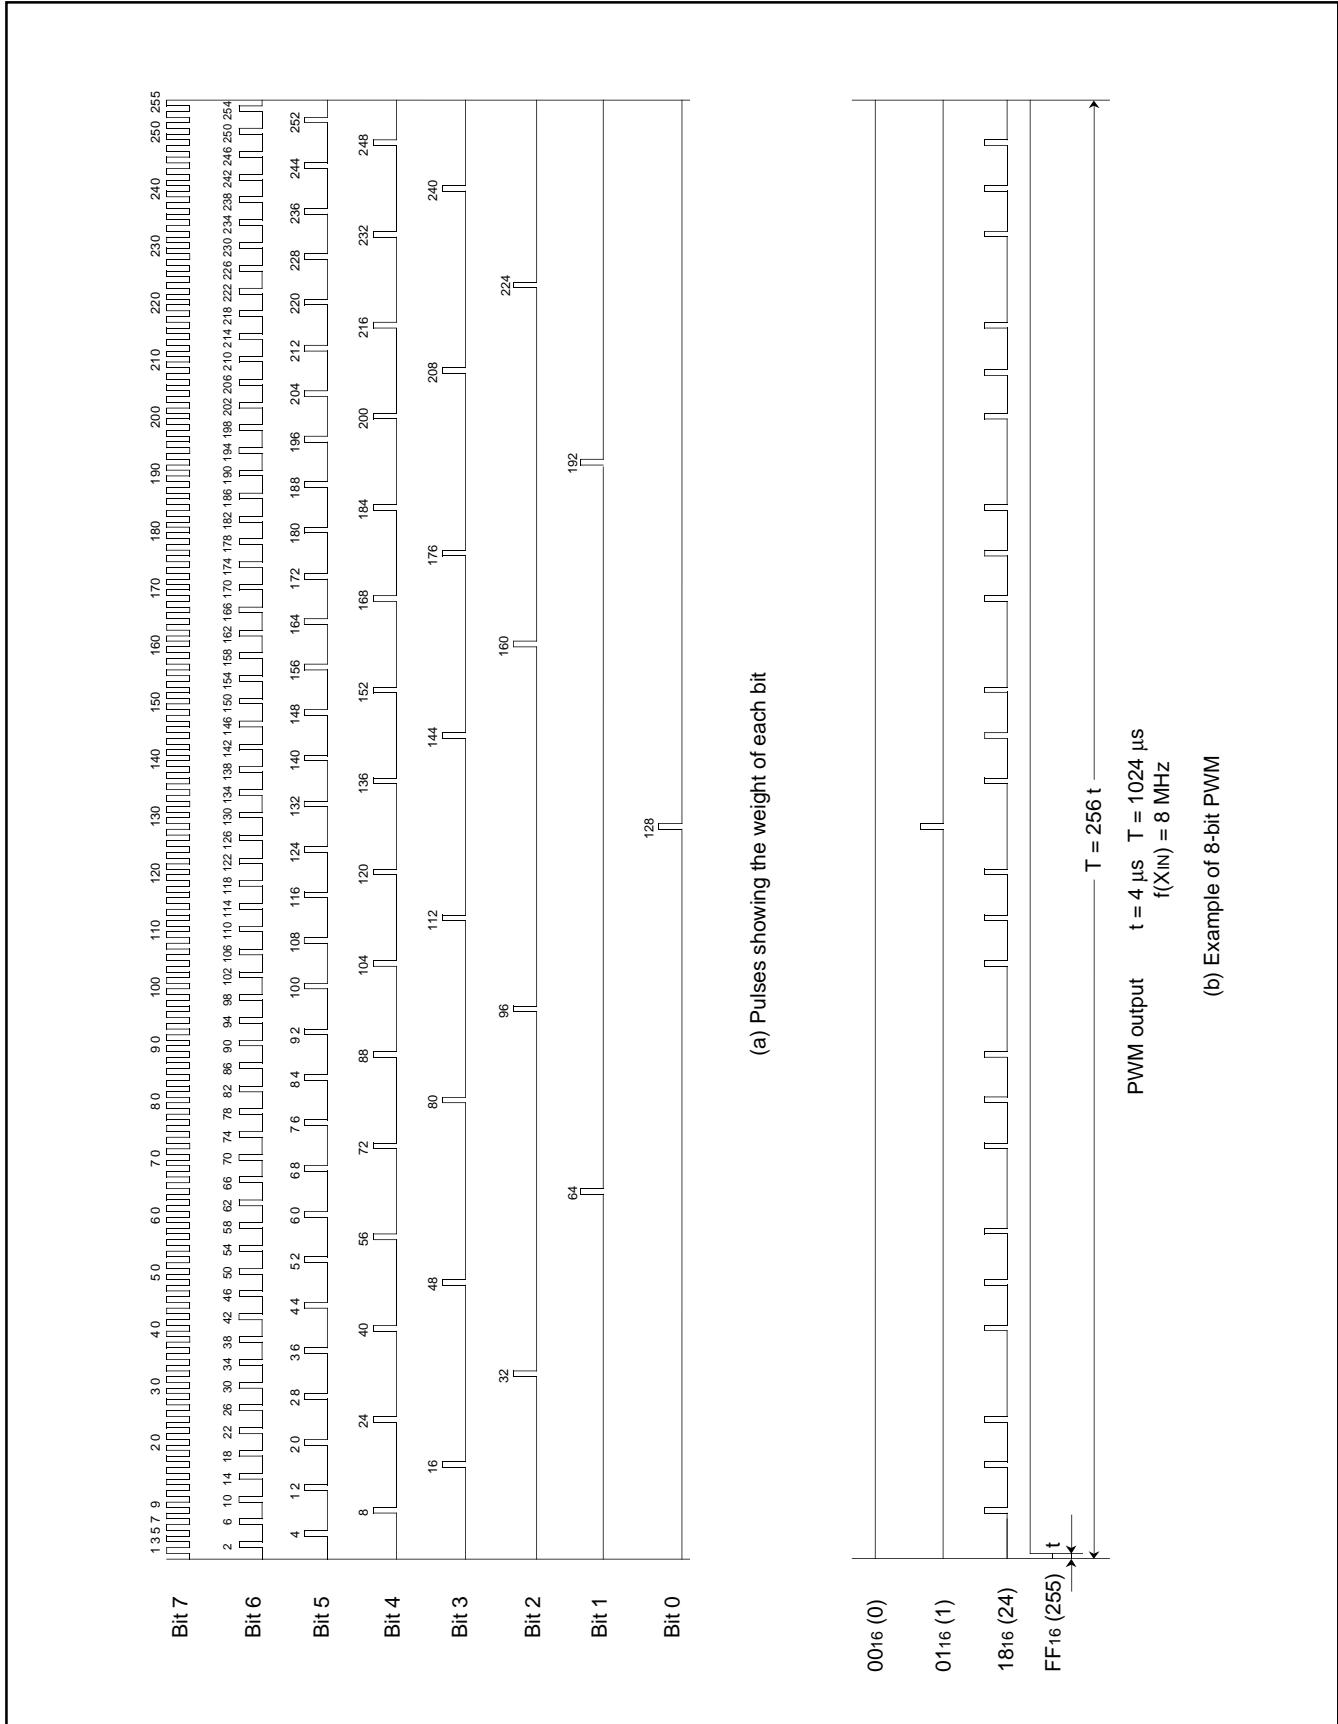

Fig. 8.7.2 PWM Timing
Figure 8.7.2 shows the 8-bit PWM timing. One cycle (T) is composed of 256 (28) segments. 8 kinds of pulses, relative to the weight of each bit (bits 0 to 7), are output inside the circuit during 1 cycle. Refer to Figure 8.7.2 (a). The 8-bit PWM outputs a waveform which is the logical sum (OR) of pulses corresponding to the contents of bits 0 to 7 of the 8-bit PWM register. Several examples are shown in Figure 8.7.2 (b). 256 kinds of output (HIGH area: 0/256 to 255/256) are selected by changing the contents of the PWM register. An entirely HIGH selection cannot be output, i.e. 256/256.